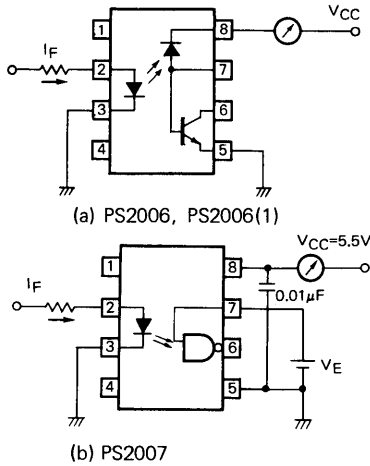

Fig. 8 Measurement of I_{CCL} and I_{CCH} .
The method of measuring the I_{CCL} and I_{CCH} of the PS2006 and PS2006(1) is shown in (a) of Fig. 8, and that of the PS2007 in (b).